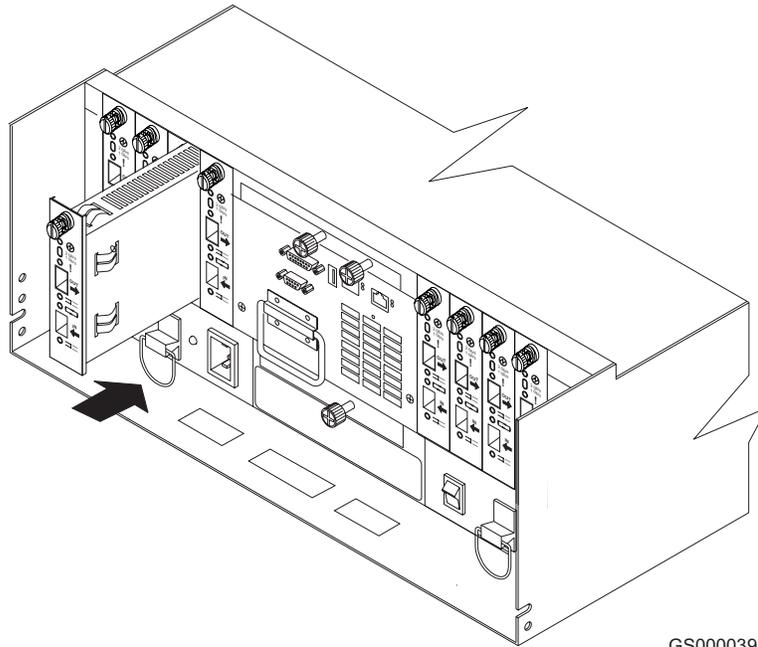

Figure 27. Replacing a mini hub
1. Completely slide the mini hub into the appropriate slot, as shown in Figure 27.